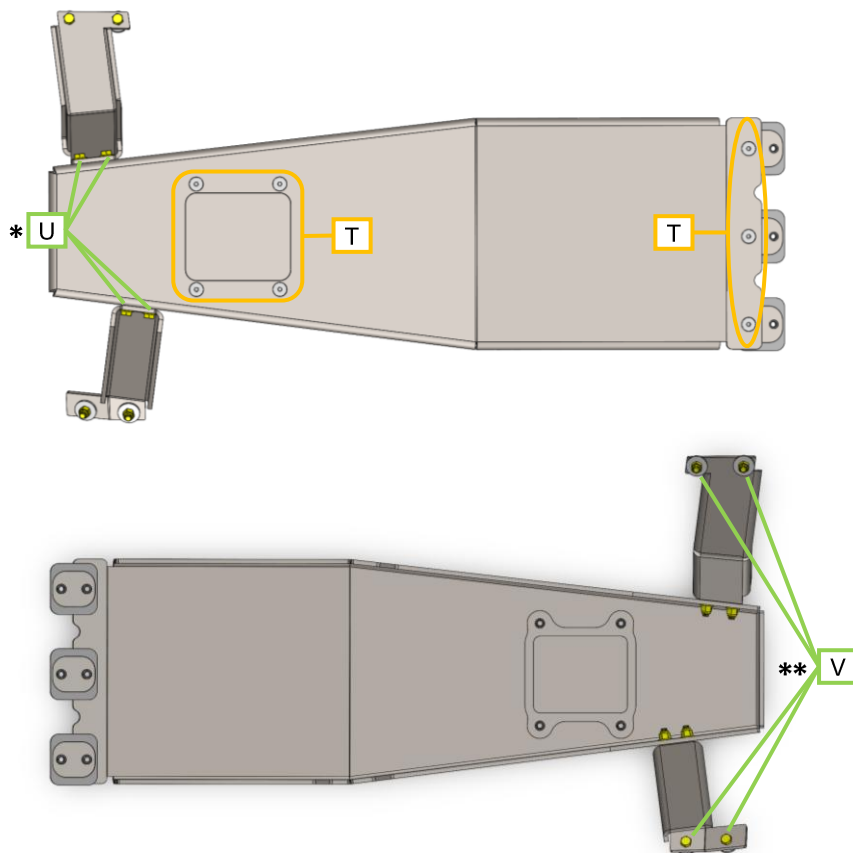

Figure 42: bolt callouts on engine skid plate
35. Proceed with Table 3 while referencing Figure 42. Tighten the engine skid plate hardware to the following specification. **Pay attention to the \* notes at the bottom of the page.**